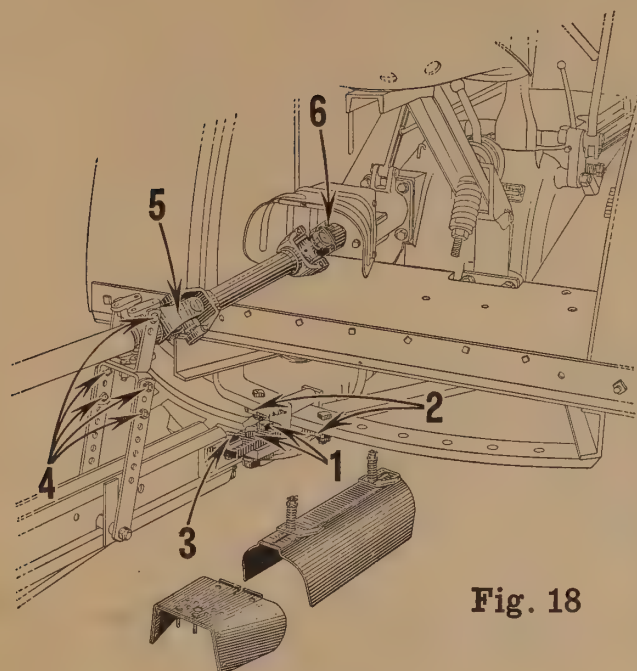

Fig. 18
1. (Fig. 18.) Bolt extension drawbar to top of tractor swinging drawbar as shown.
2. (Fig. 18.) Set swinging drawbar in position shown and secure in place by bolting stop blocks to underside of swinging drawbar guide.
3. (Fig. 18.) Connect Binder to extension drawbar.
4. (Fig. 18.) Adjust height of power shaft front bearing to level power line as shown.
5. (Fig. 18.) Remove tape around key in front end of telescoping pipe for power drive. Remove cap screw, lugged lock washer and notched retaining washer from front end of telescoping pipe. Slide rear universal joint onto front end of telescoping pipe and replace notched
6. (Fig. 18.) Slide front splined universal joint onto take-off shaft on tractor and secure in place with clamp bolt and cotter.